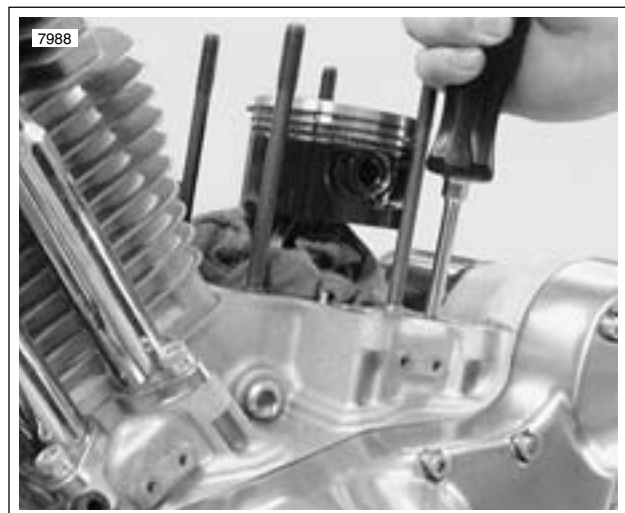

Figure 3-74. Checking Cam Gear End Play
6. See Figure 3-74. Check cam gear end play for each cam gear as follows: